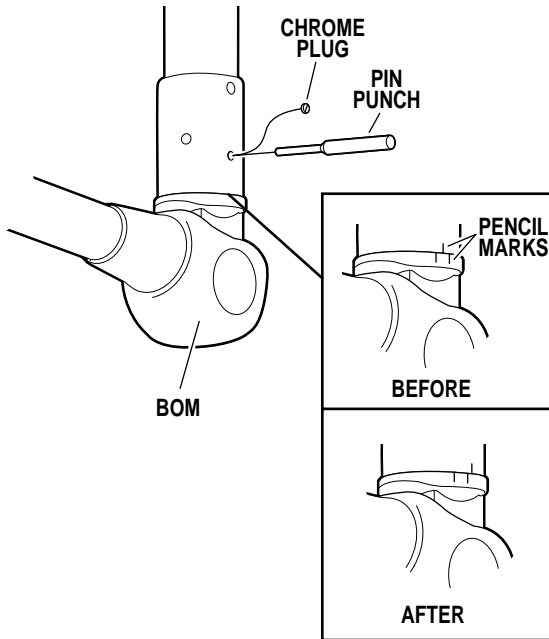

Figure 2-12. Horizontal Rotation Adjustment
c. If releveing the mounting plate or lubricating the BOM needle bearings does not correct the problem, an adjustment may be required. This adjustment is made by increasing or decreasing the bearing preload. Refer to figure 2-12 and proceed as follows:
g. To determine the amount of adjustment, rotate the lighthead so the pin punch is touching one side of the adjustment hole and use a pencil to mark a reference line as shown in figure 2-12. Rotate the lighthead so the pin punch is touching the other side of the adjustment hole and mark another reference line as shown in figure 2-12.